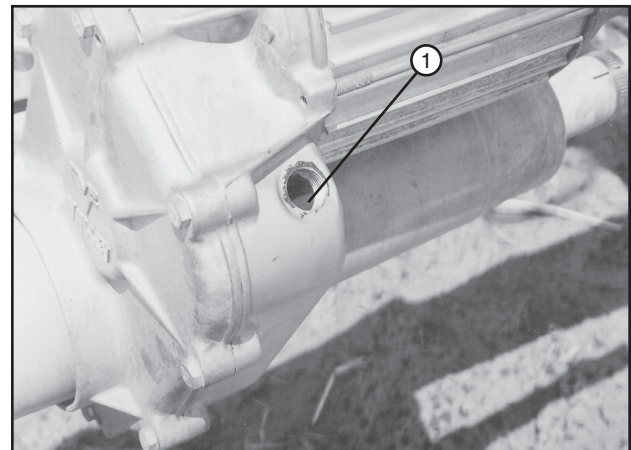

Figure 67-2 1. Bottom of Fill Plug Hole
2. Fill the gearbox 1-7/8 in (48 mm) from the bottom of fill plug hole with Valley Gear Lube. The capacity of the gearbox is approximately 44 oz (1.3 liter). See figure 67-2.